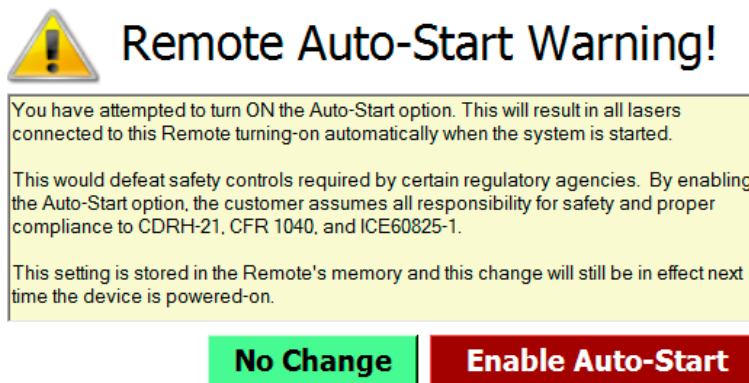

Figure 4-39. Coherent Connection-Auto-Start Warning
- If users then **select** the check box to enable Auto-Start, a warning pop-up dialog box is shown, like the one shown in Figure 4-39. Read the warning, and then click either button to select No Change or Enable Auto-Start.